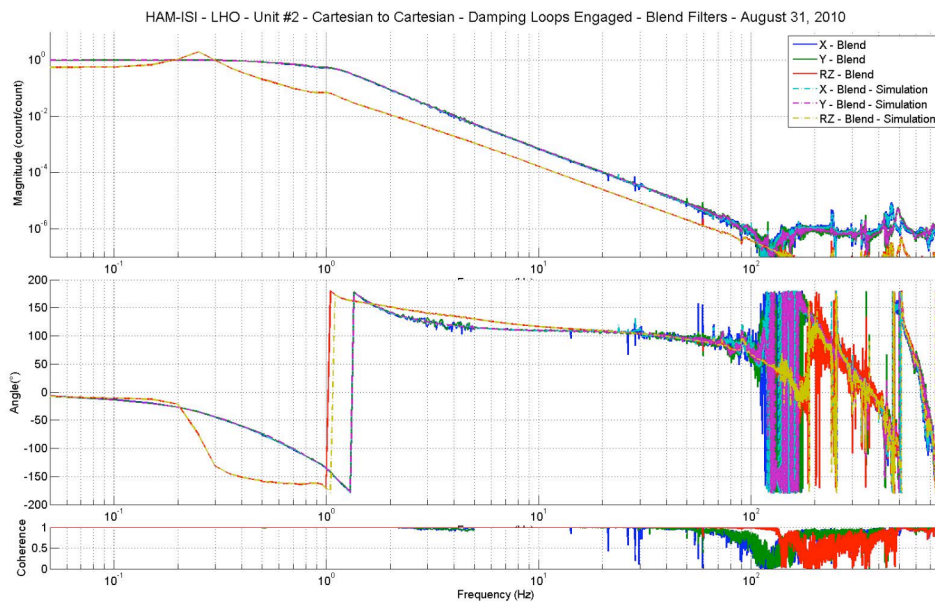

Figure 5 - Transfer functions – Cartesian drive - Super sensors – Damping Loops engaged
- MEDM doesn’t confirm the filters update. To check the filters update, transfer functions from actuators driven in the Cartesian coordinate system to super sensors are measured (figure 5). We had time to do it.